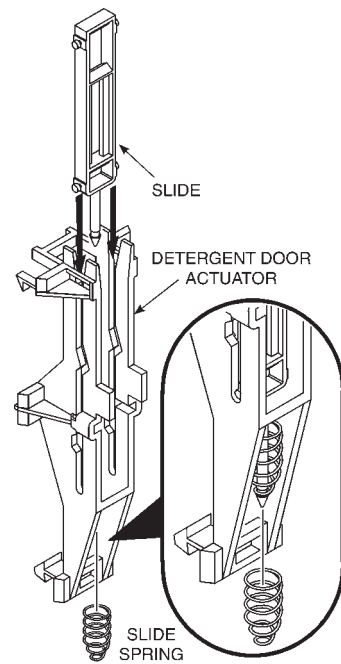

Fig. 2-20
11. Remove the upper slide, the slide spring and the lower slide. (Fig. 2-20)